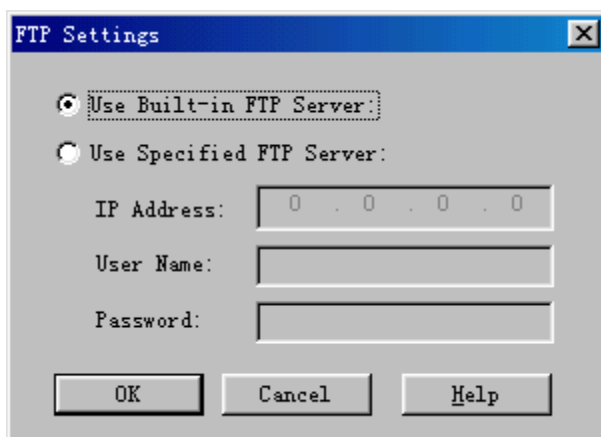

Figure 6-2 FTP Settings dialog box
The **FTP Settings** dialog box opens up, as shown in Figure 6-2.
- 2) Click **Modify**. The **FTP Settings** dialog box opens up, as shown in Figure 6-2.